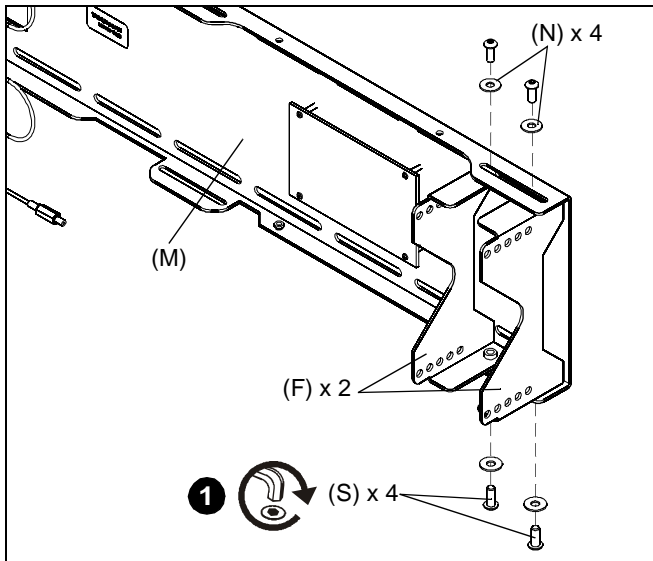

Figure 8
1. Attach two height adjustment brackets (F) to wallplate assembly (M) using four 1/4-20 x 5/8" buttonhead cap screws (S) and four 1/4" flat washers (N). Partially tighten only, so that further adjustments can be made. (See Figure 8)
2. Slide the actuator assembly (B) into the space between the two height adjust brackets (F). (See Figure 8)
3. Slide the height adjust brackets so they are tight against the actuator assembly and tighten the four buttonhead cap screws and flat washers installed in Step 1. (See Figure 8)